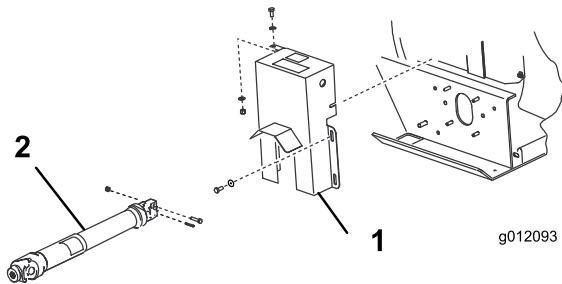

Figure 7
1. Loosen the fasteners securing the belt guard to the blower frame (Figure 7). Remove the belt guard.
2. Slide the drive shaft onto the traction unit PTO shaft (Figure 7). Align the mounting holes in each shaft and slide them together.
3. Secure them with a roll pin and (2) capscrews and nuts (Figure 7).
6. Secure them with a roll pin and (2) capscrews and nuts.
7. Install the belt guard and tighten the mounting fasteners (Figure 7).